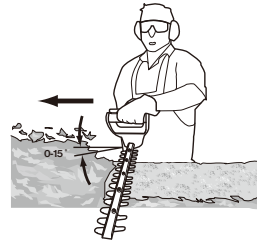

Fig. 8
7. After cutting the sides proceed to the top. Try to keep the cutting device angled at approximately  $15^\circ$  to the cutting surface (Fig. 8).